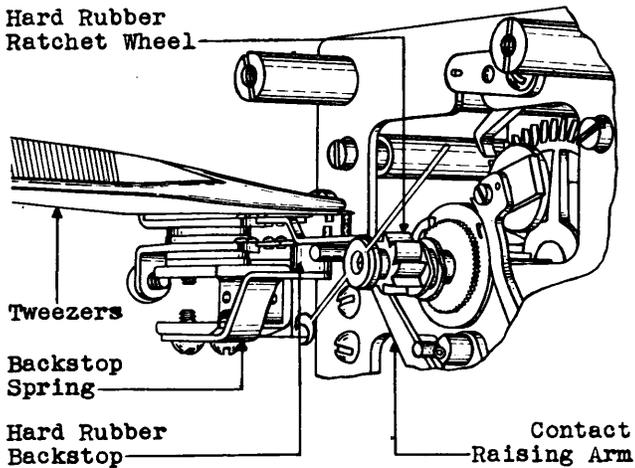

Fig. 9 - Method of Adjusting Circuit Closing Contacts with Tweezers
(4) Other circuit closing contacts except contacts controlled by synchronizing lever: Manually operate the pendulum until the shorter spring drops from a tooth of the hard rubber ratchet wheel and note the position of the pendulum at which this spring drops. Continue to operate the pendulum and note that the associated longer spring does not drop from the hard rubber ratchet wheel until the pendulum has completed at least one quarter of a full stroke. Check in this manner on each tooth of the hard rubber ratchet wheel and adjust if necessary as outlined in (3) above.
(5) Manually operate the pendulum until the shorter spring drops from a tooth of the hard rubber ratchet wheel. In this position, the contacts should be operated. If necessary, adjust the contact springs with the tweezers as shown in Fig. 9.